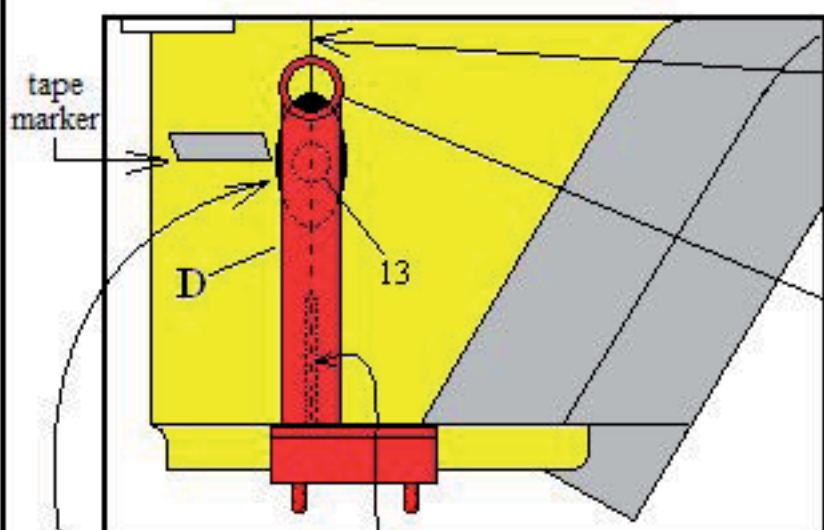

Fig. 6
- 6- Refer to page 5 Fig. 6 clean body seam (12) with denatured alcohol prior to install both rear side panels of the vehicle top to bottom.
- 7- Refer to page 4 Fig. 4 and remove the Rear Passenger and Driver side Support Towers (D) from the hardware box supplied with your kit. As indicated on page 4 Fig. 4a (exploded cut away view) remove any debris such as mud or the like from the underside of the vehicle which may inhibit the installation procedure. Use Rear Support Tower (D) marked "PASSENGER SIDE" as shown on page 4 Fig. 4 and Fig. 4a and install clamp portion (5) of the Support Tower (D) over the Rear Passenger side sheet metal base lip (6) with pinch plate (7) on the inner side between the vehicle body and the clamps 3/8" hex head screws, lock washers and flat washers (8). While holding Support Tower (D) in place use Flange (10) and collar (11) as shown on Fig. 4a and on page 5 Fig. 6 to align the Support Tower (D) to the Rear vehicle body seam (12). Once alignment is completed and clamp is fully pushed up against the lower body lip (6) as shown on page 4 Fig. 4a snug down the two clamp 3/8" hex head screws, lock washers and flat washers (8) using a 9/16" socket or box end wrench. Do not fully tighten at this time. Place a masking tape marker at the center of Tower stand off (13) as shown on Fig. 6 then remove Tower.
- 8- Refer to page 2 sections "G" of your hardware kit and remove one Black aluminum oval adhesive backed wear plate located in Bag #3. Refer to page 4 Fig. 4a and page 5 Fig. 6 then peel off the self adhesive protective film and place the center hole of the oval in line with the masking tape marker and the ends of the oval with the vehicle body seam as shown in Fig. 6 so it is directly behind the black nylon stand off "13" of support Tower "D". Install the passenger side Tower as before and make certain the center tip of stand off "13" falls inside the center oval wear plate hole and that the Tower is in line with the vehicle body seam as before then fully tighten both the Tower's 3/8" hex head screws in place.